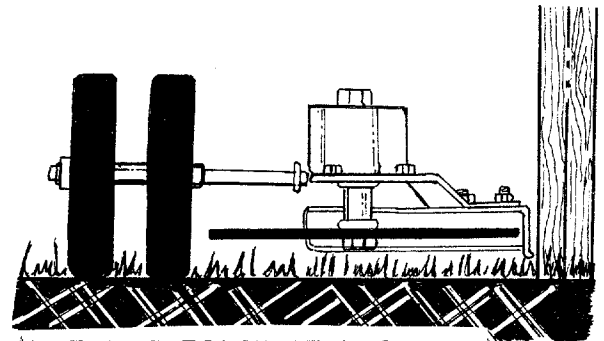

FIGURE 19
4. To operate the unit as a trimmer, move the adjustment lever and rotate the cutting blade 90°. See figure 19. Move the front wheels all the way to the right, as described in the Control section: